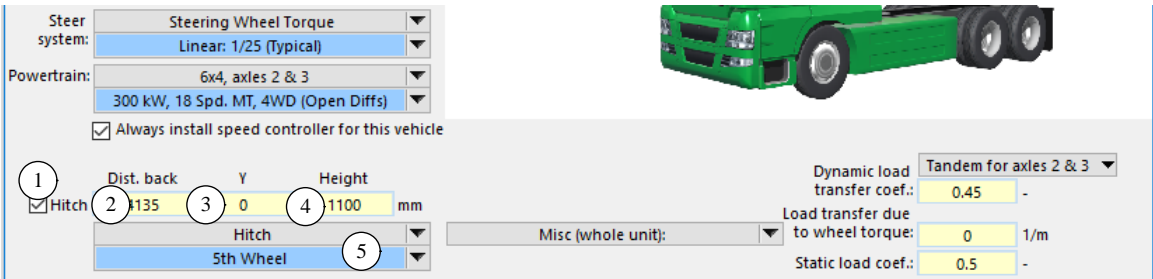
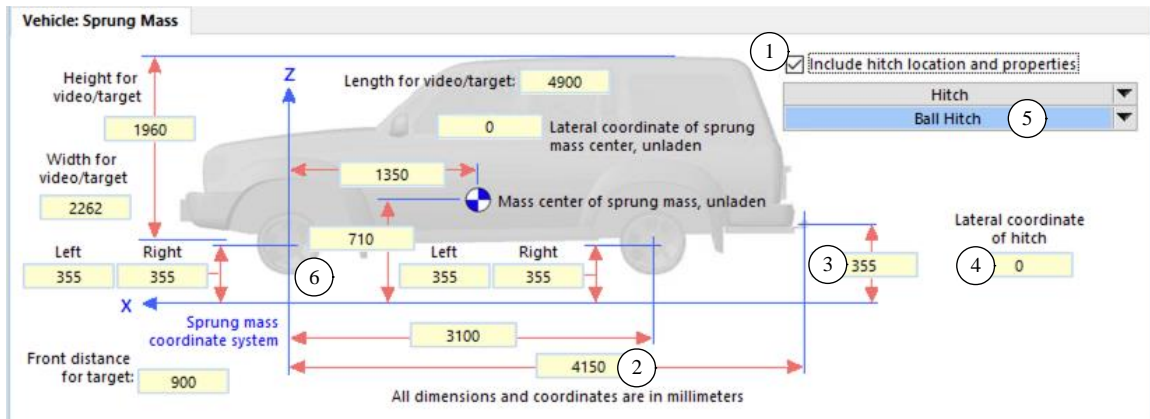
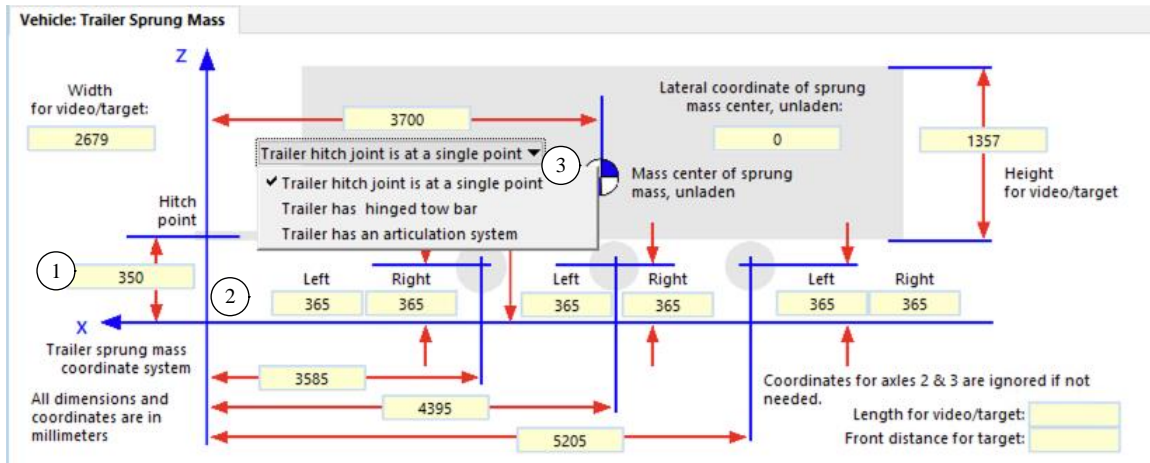

Figure 1. Setting the hitch location for a TruckSim 3-axle lead unit.
Figure 2. Setting the hitch location for a CarSim lead unit.
Figure 3: Height of hitch point for a CarSim trailer.
Hitch connections may be specified on one of several screens. In TruckSim, a trailing hitch location and linked dataset for hitch settings may be set on a **Vehicle: Lead Unit** screen (Figure 1).
In CarSim, the hitch coordinates and dataset link are shown on the lead unit sprung mass screen (Figure 2). As with TruckSim, a checkbox (1) is used to show data fields for the X-Y-Z coordinates ((2), (3), (4)) relative to the sprung mass coordinate system origin (6). A corresponding blue link to a hitch dataset (5) has hitch properties. The math model keywords for the X-Y-Z coordinates ((2), (3), (4)) are the same for CarSim and TruckSim.
1. CarSim supports a single hitch connection between a trailer and tow vehicle. The hitch data are defined on the lead unit sprung mass screen (Figure 2) and the trailer connects to it. Trailers in CarSim cannot link to other trailers.
Given that trailers in CarSim and TruckSim cannot be used in a simulation without a lead vehicle unit, all trailers are required to have a defined hitch location in front, as shown in Figure 3 for CarSim. The hitch point (1) is shown as a vertical distance above the trailer sprung-mass coordinate system origin (2). It is set in the math model using the root keyword H_H_FRONT . For trailers and dollies that use a hinged tow bar or articulation system connection, a drop-down control is available (3).
The capability of changing the value of OPT_HITCH_TYPE to 3 or 4 is supported because these hitches require information associated with the trailer sprung mass that is typically specified on a sprung mass screen (e.g., ③, Figure 3, page 3), whose settings are typically read by the VS Math Model after the hitch location parameters were set from a dataset for the leading unit (e.g., Figure 1 and Figure 2).